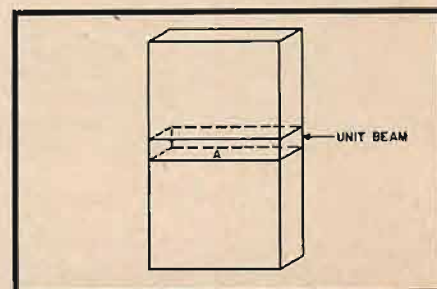

Fig. 2. Typical panel as used in the discussion.
Figure 2 is a diagram of the audio section of the panel. The program material leaves the tape (on an Ampex "400") via a 500-ohm line, goes into the T-pad, through the passive equalizer, to give the proper high-frequency characteristic for microgroove (LP) or standard (78-r.p.m.) recording, and out into a high-quality 30-watt power amplifier¹. From the output of this amplifier,
For all practical purposes it is reasonably sufficient to consider a panel as made up of an infinite number of small beams arranged side by side as shown in Fig. 2. Notice that in this type of analysis, the beams are represented as extending across the shorter dimension of the panel. Assuming the edges of the panel are supported, it is logical to suppose that the beam exhibiting the most severe deflection when subject to a load, will be one near the center of the panel such as beam A. Now, without attempting to determine an exact coefficient for the stiffness factor, it can be shown that the maximum deflection of beam A is dependent on a few easily determined variables. Actually, since the beams are integral parts of a homogeneous plate, the deflection will be somewhat less than that of a single unattached beam.
THE ACCOMPANYING PHOTOGRAPHS represent the culmination of some seven or eight years of interesting and satisfying work in the hobby of sound reproduction. *Figure 1* shows a radio, turntable, and amplifier cabinet recently completed, the design of which incorporates a few interesting features. The height of the cabinet has been selected to stand even with the arm of a chair in such a manner as to be of maximum convenience to the operation of either the radio or the turntable. The chair which normally stands beside the cabinet has been removed for photographic purposes. A considerable amount of thought has gone into this design in an attempt to overcome what we regard as disadvantages that appear in nearly all other designs of cabinets. Most cabinet designs fall in two general categories: (1), Controls positioned for operators who prefer to lie on the floor; and (2), Controls positioned for people who prefer to stand facing a blank wall. The design shown has all controls at finger tip reach while sitting comfortably in a chair. The cover to the turntable rolls back at finger tip touch. A detail of this operation is shown in *Fig. 2*.
With the controls for the radio tuner at arm level when the user is seated, as indicated in Fig. 2 above, listening can be a pleasure uninterrupted by the need for jumping up and down to change stations or records. The loudspeaker, shown in Fig. 3 below, is located across the room. The cabinet was modified from a standard model.